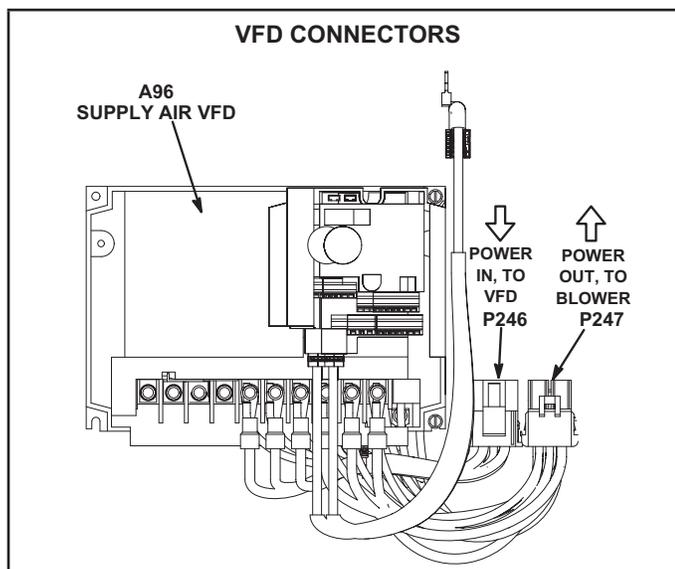

FIGURE 27
- 2 - Locate P246 and P247 connectors near the VFD. See FIGURE 27.